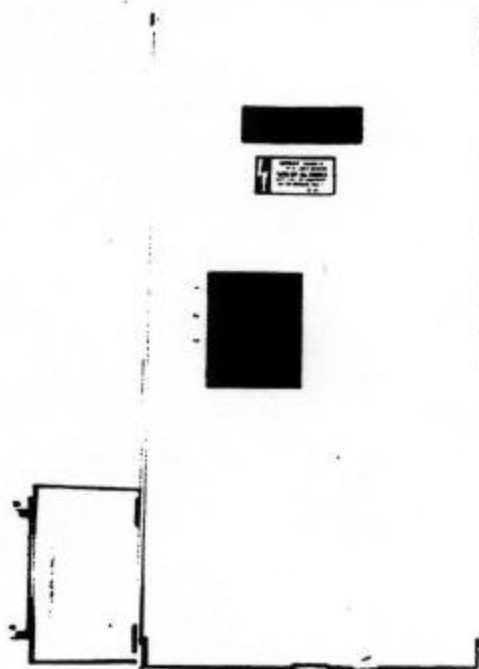

Figure 3-8. Optional Main Load Center Shown in 208V/60 Hz 3 ø U.S. Configuration
3.8 Optional Main Load Center. The optional main load center (Figure 3-8) is a NEMA-3R rainproof type enclosure installed on the antenna ground mount. The main load center provides primary power distribution and overload protection for the local control/motor drive controller. Expansion space is provided for additional circuit breakers to protect the various electrical options available with the